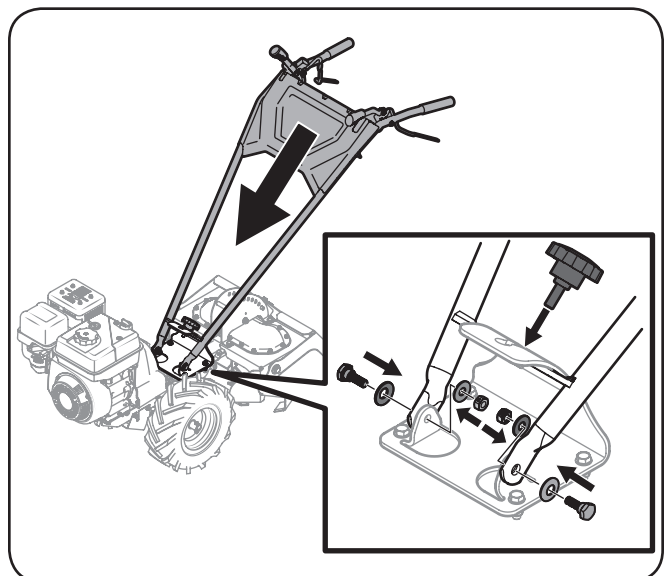

Figure 3-2
3. Using the shoulder screws, hex lock nuts, flat washers and belleville washers from the hardware pack, mount the handle to the handle mount plate as shown in Figure 3-2.
4. Gently lift the handlebar and place the handlebar brace in the desired height position on the handle mount bracket and secure it in place with the star knob removed in Step 2. See Figure 3-2.